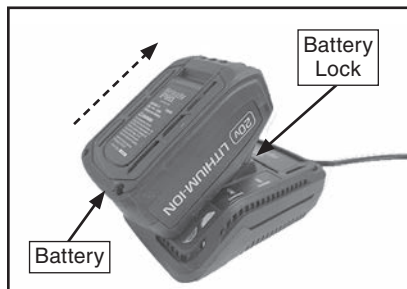

Figure 7. Removal of battery.
1. Press battery lock (see **Figure 7**) and remove battery from charger.